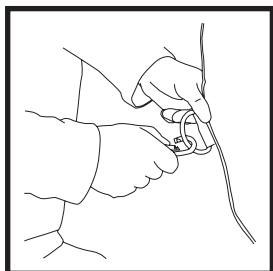

Fig. 3
5. Fasten the carabiner attached to the end of the rope to the wheel sewn at the highest point of the arc leg (Fig. 3). Repeat for each rope.